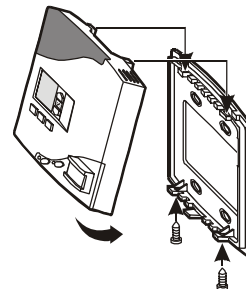

Figure 5: Returning the MRC to the Mounting Plate
3. Hook the tabs at the top rear of the MRC housing into the matching depressions at the top of the mounting plate and rotate the bottom of the housing toward the wall until it snaps into place on the mounting plate (see Figure 5).